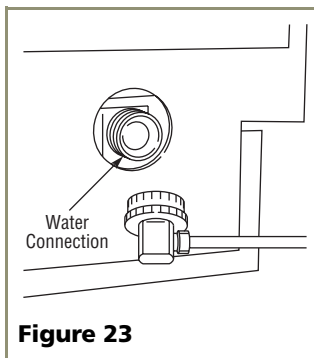

Figure 23
1. Install the 1/4 inch Outside Diameter copper water line from the main water source (see **Figure 23**).